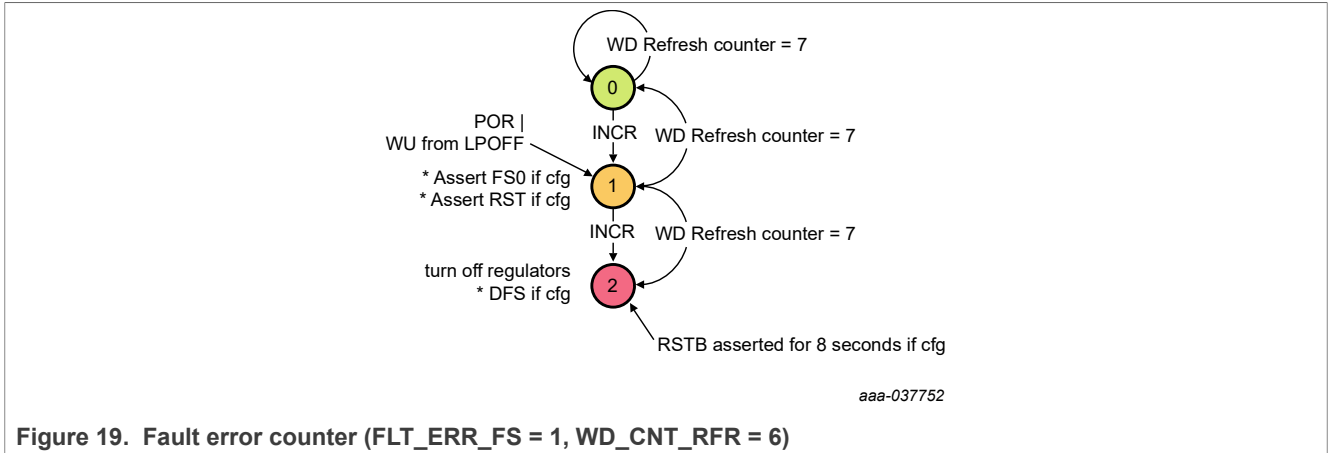

Figure 19. Fault error counter (FLT_ERR_FS = 1, WD_CNT_RFR = 6)
- FLT_ERR_FS = 1/Intermediate = 1; Final = 2 (Figure 19).